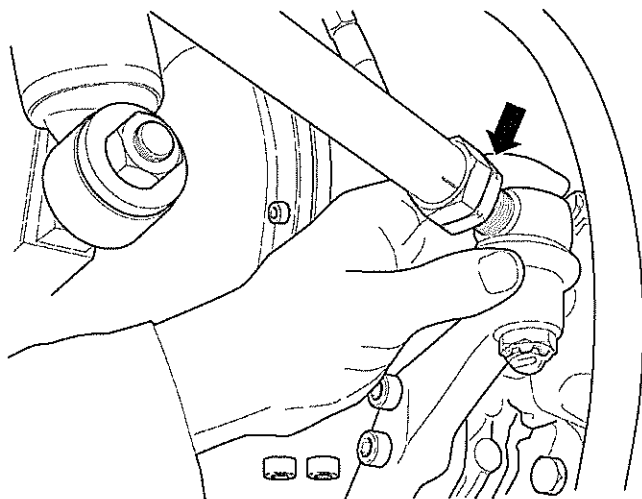

Fig 2 Undercut on nut denoting left hand thread
(1) Left hand thread ball joints of track rods are mounted inside at right track rod and outside at left. Left hand threads are distinguishable by undercut on nuts (see Fig 2).
(2) Twisting of track rod tubes in driving direction reduces toe-in. Twisting of track rod tubes against driving direction increases toe-in.